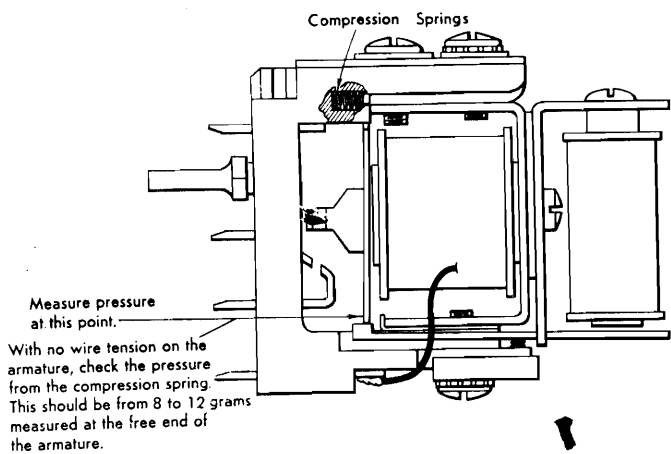

Figure 17
2. Figure 17. With no wire tension on the armature, check the pressure exerted by the compression spring. This should be 8 to 12 grams, measured at the free end of the armature.